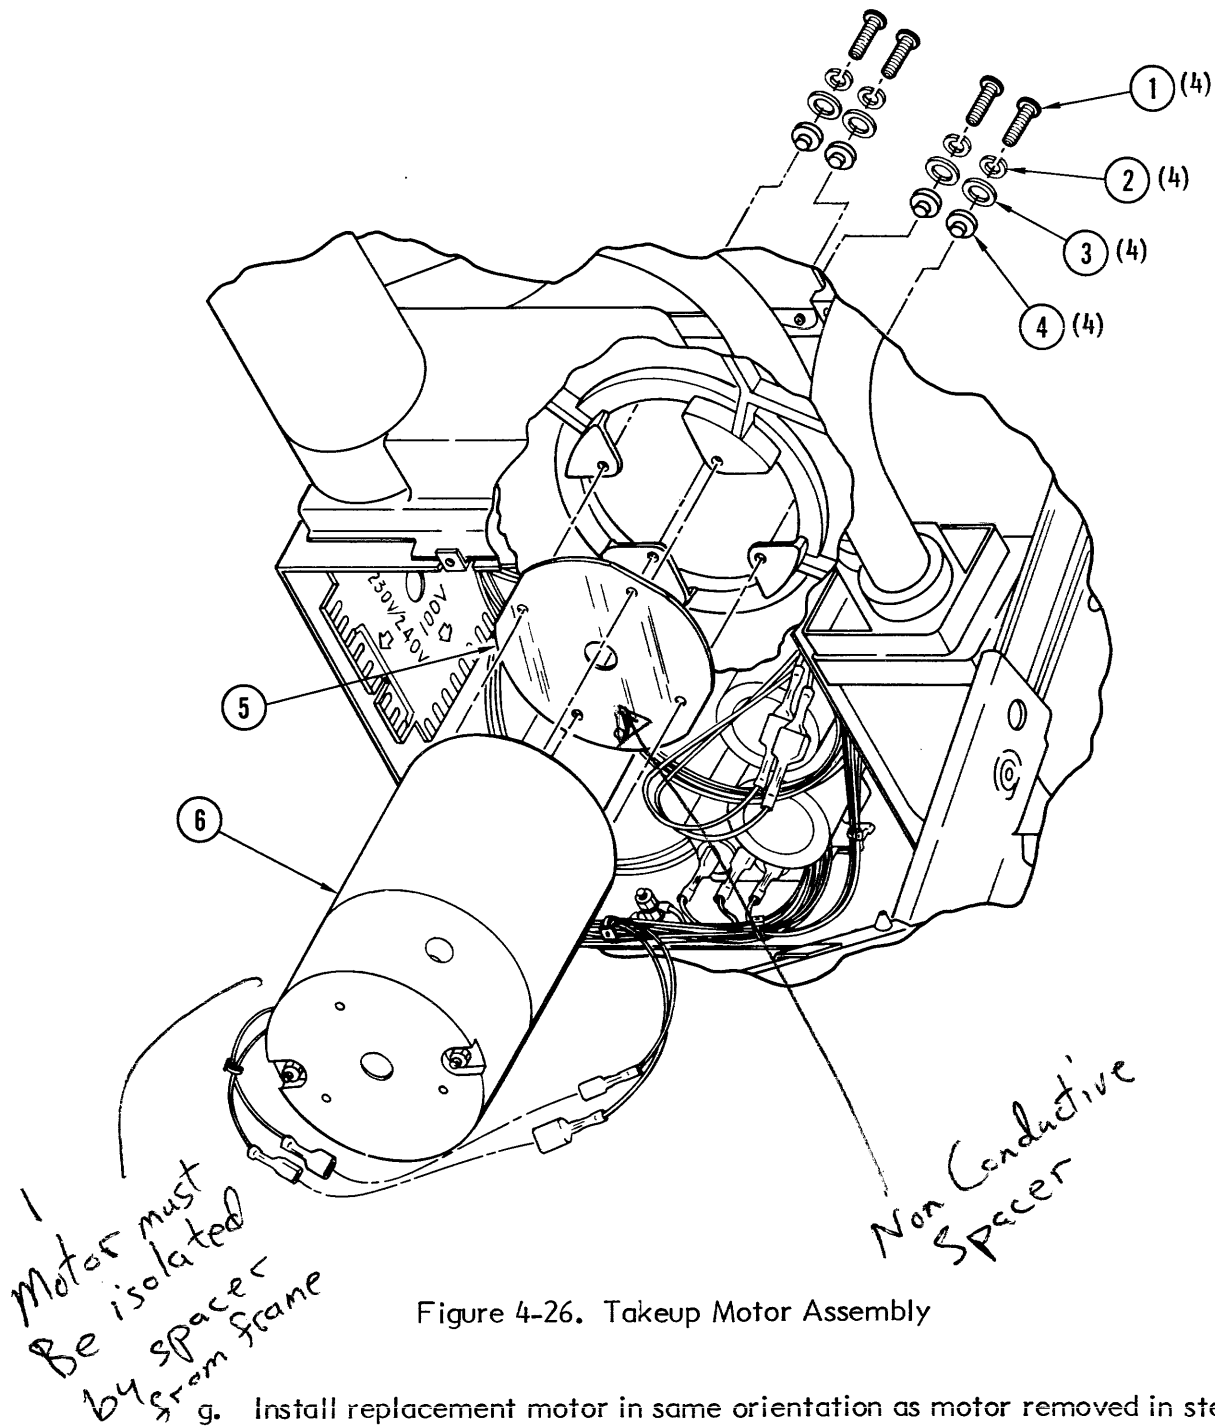

Figure 4-26. Takeup Motor Assembly
4-40. **Removal, Replacement and Adjustment (Figure 4-26).** Place the transport in service access position, in accordance with paragraph 4-3, and remove and replace the takeup motor assembly in accordance with the following procedure:
- f. Remove four screws (1, Figure 4-26), lockwashers (2), flatwashers (3), shoulder washers (4), and takeup motor (6) out of drive, noting orientation of motor. Save attaching parts, including insulator (5), for use in assembly.